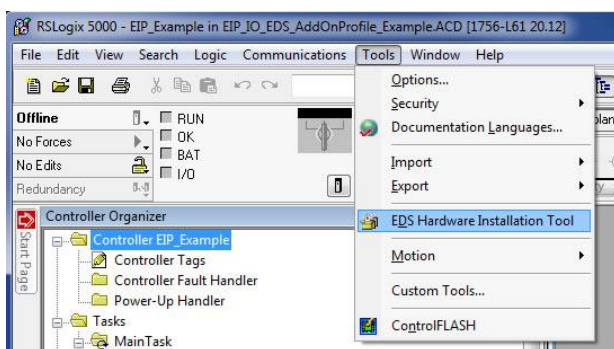

Figure 21: EDS Hardware Installation Tool Menu
- 1) Register the interface card's EDS file. In the menu bar, navigate to Tools...EDS Hardware Installation Tool. Refer to Figure 21.